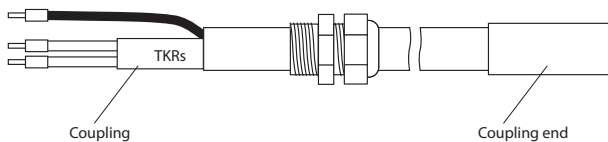

Figure 10
5.2.3. The final appearance of the connection and the end termination couplings installed is shown in Figure 10.